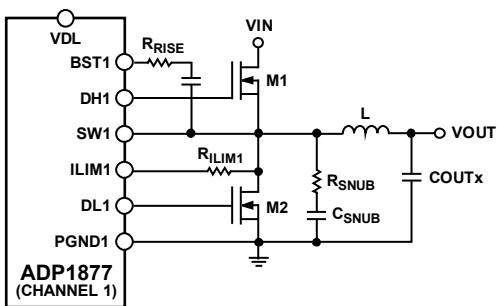

Figure 35. Application Circuit with a Snubber
In any high speed step-down regulator, high frequency noise (generally in the range of 50 MHz to 100 MHz) and voltage overshoot are always present at the gate, the switch node (SW), and the drains of the external MOSFETs. The high frequency noise and overshoot are caused by the parasitic capacitance, C_{GD} , of the external MOSFET and the parasitic inductance of the gate trace and the packages of the MOSFETs. When the high current is switched, electromagnetic interference (EMI) is generated, which can affect the operation of the surrounding circuits. To reduce voltage ringing and noise, it is required to add an RC snubber between SW and PGND for applications with more than 10 A output current, as illustrated in Figure 35. Snubbers may also be needed in applications where the duty cycle in one of the channels is higher than or equal to 50%. In most applications, R_{SNUB} is typically 2 Ω to 4 Ω, and C_{SNUB} typically 1.2 nF to 3 nF.
In most applications, a component size 0805 for R_{SNUB} is sufficient. However, the use of an RC snubber reduces the overall efficiency, generally by an amount in the range of 0.1% to 0.5%. The RC snubber cannot reduce the voltage overshoot. A resistor, shown as R_{RISE} in Figure 35, at the BSTx pin helps to reduce overshoot and is generally between 2 Ω and 4 Ω. Adding a resistor in series, typically between 2 Ω and 4 Ω, with the gate driver also helps to reduce overshoot. If a gate resistor is added, then R_{RISE} is not needed.